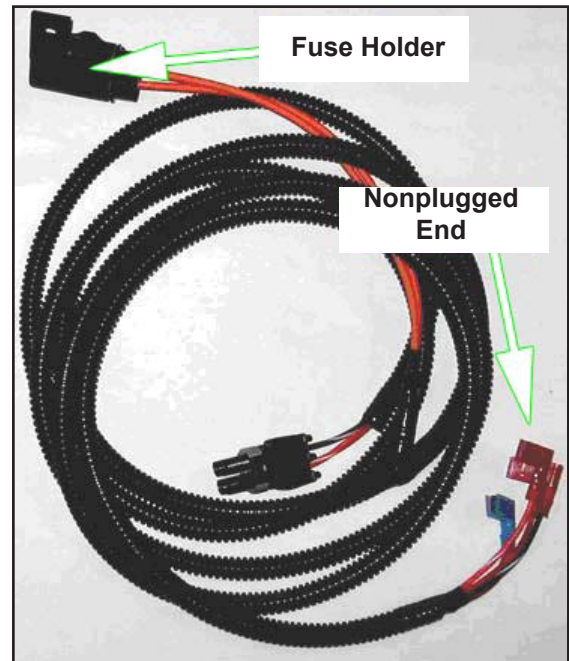
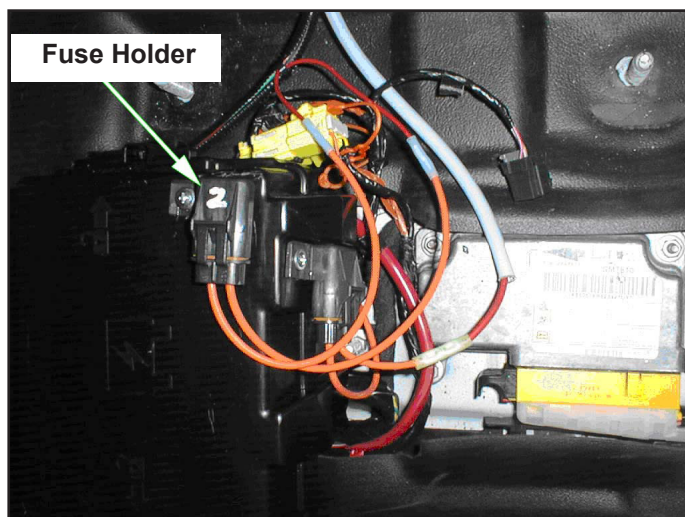

Figure 44. Fuse Holder and Nonplugged End of Throttle Cable
Figure 45. Secure Fuse Holder
1. Route the nonplugged end of the throttle cable from the CDS unit under the Power Pack and toward the steering column (see Figure 44).
3. Secure the fuse holder (containing the 2 Amp fuse) to the lid of the fuse panel with the provided self-tapping screw (refer to Figure 45). Note that the fuse holder is part of the throttle cable (see Figure 44).